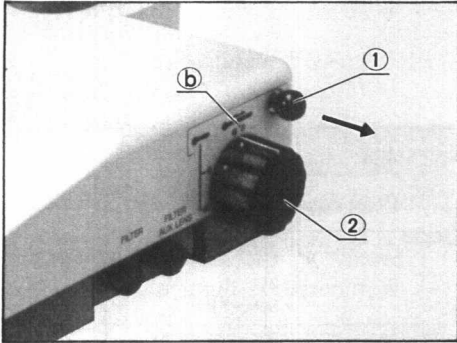

Fig. 21
b) When low contrast is required; (Fig. 21)
- ① Pull the illuminator selector knob ① all the way out.
- ② Regardless of the zoom magnification in use, align the illuminator selector dial ② to the red-green dots at position (b).